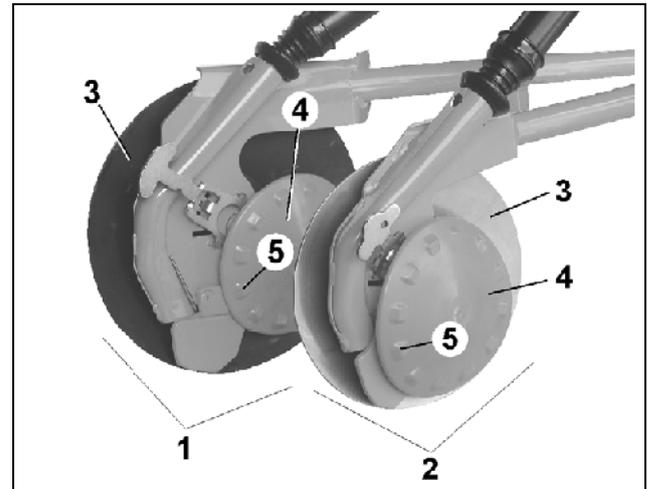

Fig. 19
- RoTeC-coulter (Fig. 19/2)
- RoTeC +-coulter (Fig. 19/1)
The **AMAZONE** RoTeC-coulter can be safely used for both mulch and conventional drilling. Seed furrow former made from hard cast alloy. The elastic polyurethane (PU) depth limiting cleaning disc keeps the inner disc surface clean (Fig. 19/4) The naps (Fig. 19/5) provide additional drive.
The PU depth limiting disc (Fig. 19/4) precisely controls the depth of the seed furrow via three settings from 2 to 4 cm. (Kap. 11.5.2). For work deeper than 4 cm the depth limiting disc can be instantly removed without any tool.